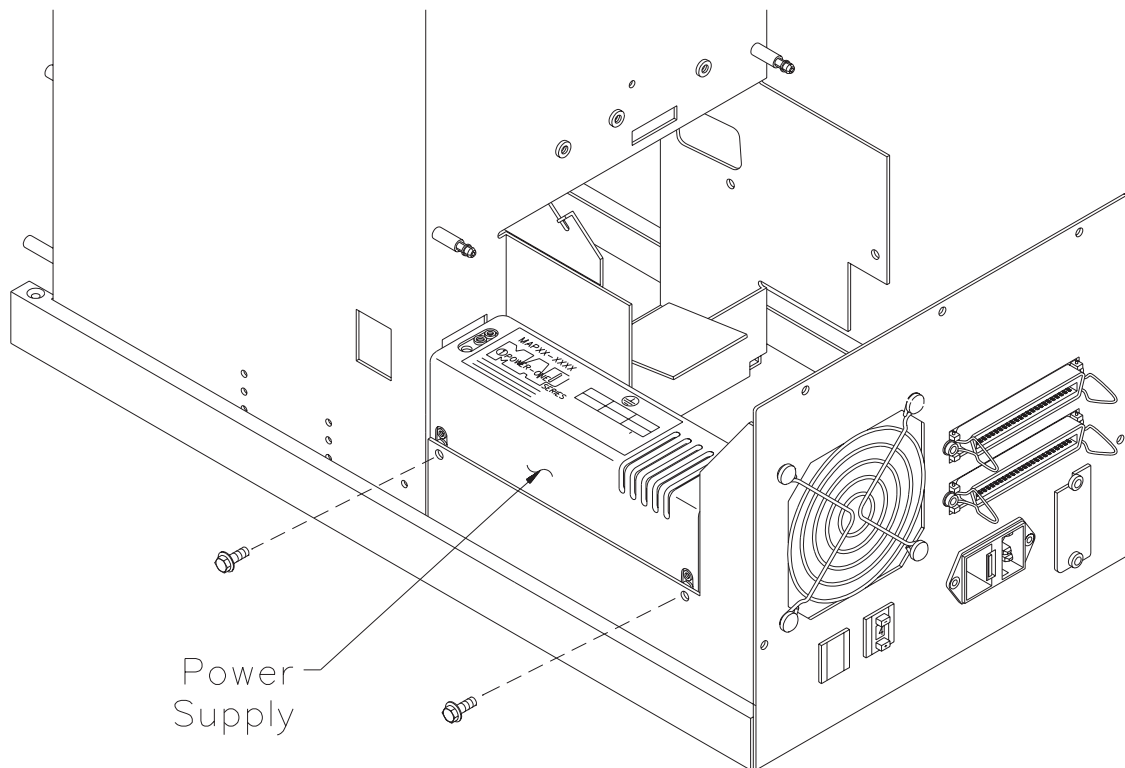

Figure 15-1 Power supply
4. Locate the power supply, as shown in Figure 15-1. Using a T-15 TORX driver bit, remove the two screws that hold the power supply in place.
3. Insert the new power supply into the CHS, as shown in Figure 15-1. The label with the blue writing on the power supply should face up; the black label should face down. Make certain that no wires are caught between the power supply and the chassis.